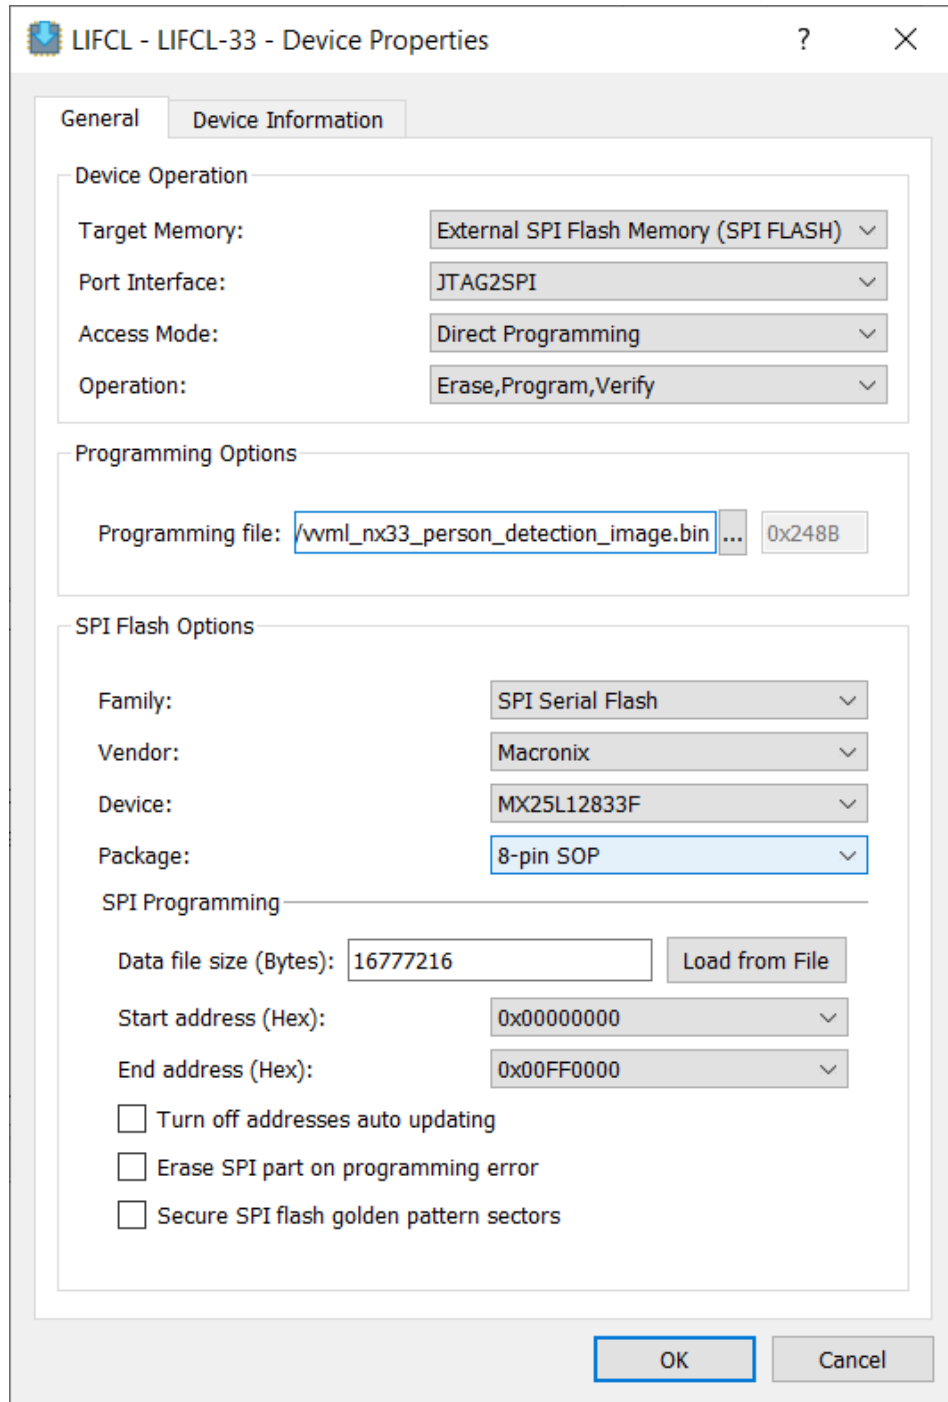

Figure 2.6. Radiant Programmer Device Properties Window – CrossLink-NX-33 VVML Configuration Done
8. Set the **Programming file** field to `vvm_l_nx33_person_detection_image.bin` as shown in Figure 2.6.